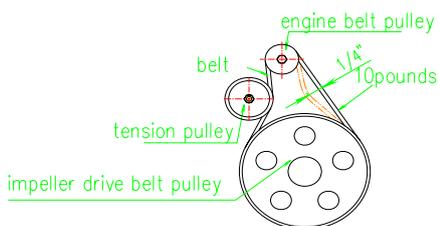

FIG 7
**2.4.3** Press right side of the handle, the belt moves 1/4" with 10 pounds of pressure, it means the tension of the belt is all right, or else adjust Rod-RH. (FIG 7)